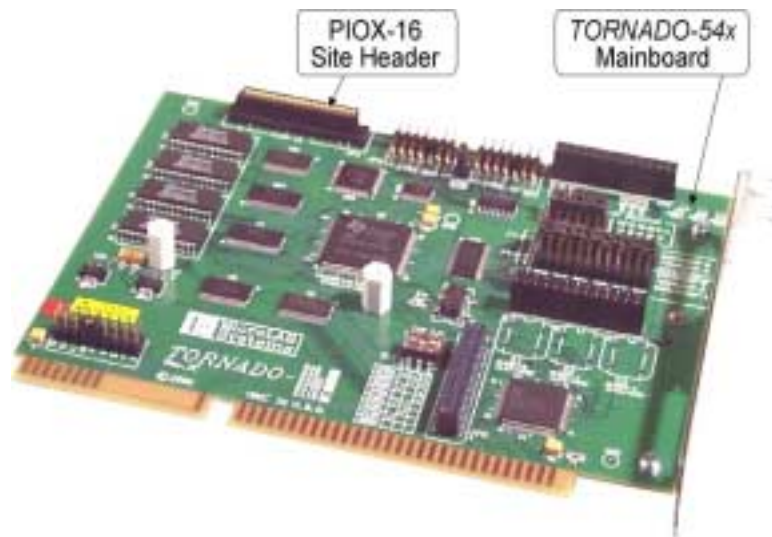

Fig.B-1. PIOX-16 site at *TORNADO*-54x board.
*TORNADO* architecture allows expansion of the on-board DSP I/O resources via on-board 16-bit parallel I/O expansion interface site (PIOX-16) (fig.B-1), which is designed to carry compatible DCM (DCM).